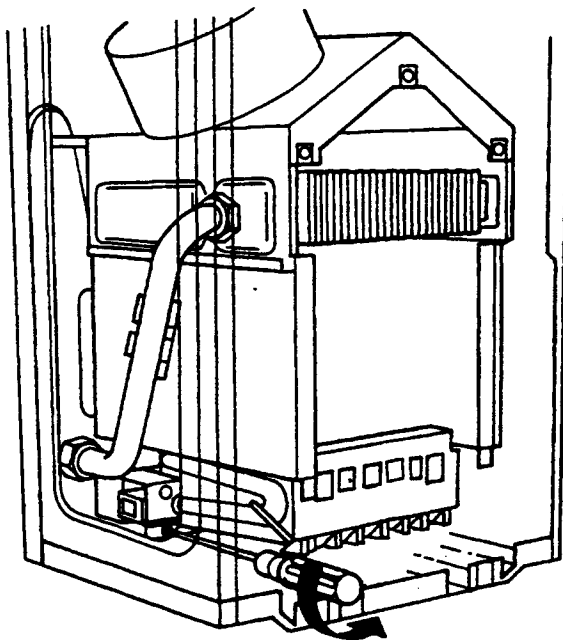

Fig. 26
- 8.6.4 Remove four burner retaining screws (Fig. 26), ease burner forward and rest on chamber base.